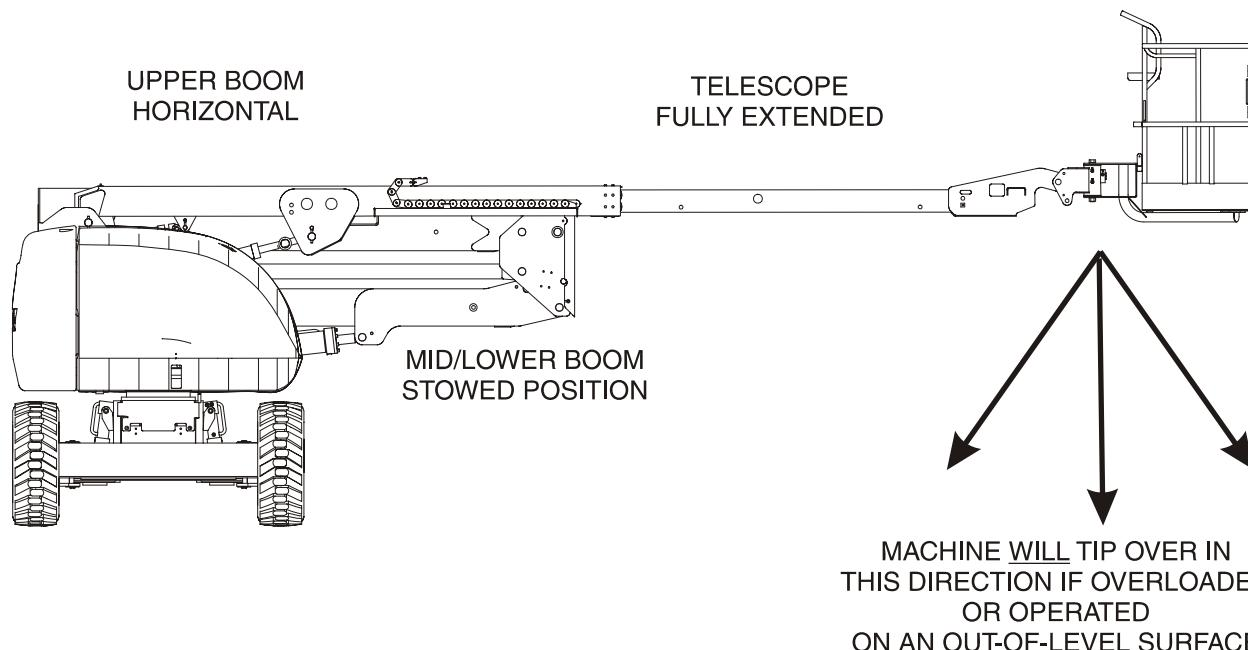

Figure 4-1. Position of Least Forward Stability
Machine stability is based on two (2) conditions which are called FORWARD and BACKWARD stability. The machine's position of least FORWARD stability is shown in (See Figure 4-1.), and its position of least BACKWARD stability is shown in (See Figure 4-2.).